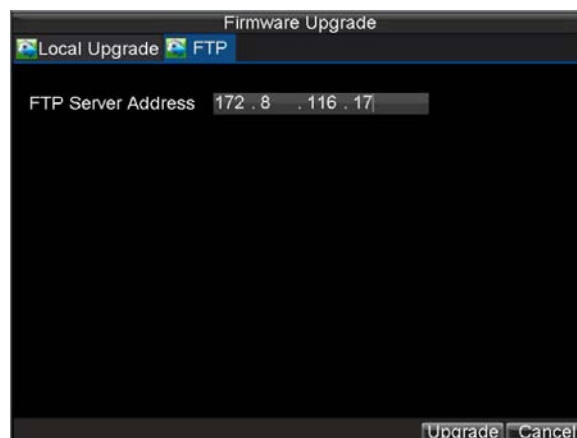

Figure12. FTP Firmware Update
3. Select the **FTP** tab, shown in Figure 12.